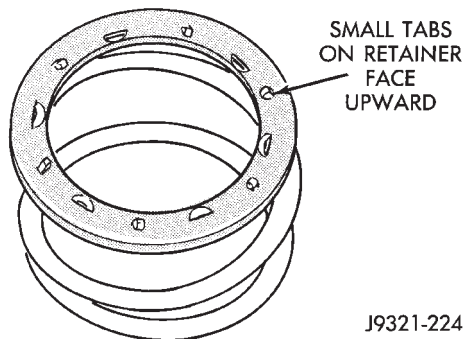

Fig. 135 Correct Spring Retainer Installed Position
(6) Position spring retainer on top of piston spring (Fig. 135). **Make sure retainer is properly installed. Small raised tabs should be facing upward. Semicircular lugs on underside of retainer are for positioning retainer in spring.**